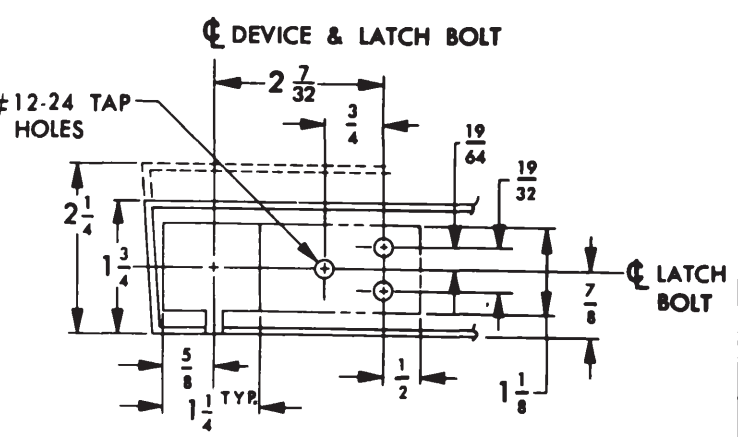

FIG. 2
C. Prepare for top and bottom bolt guides. See Figs. 2 and 3.